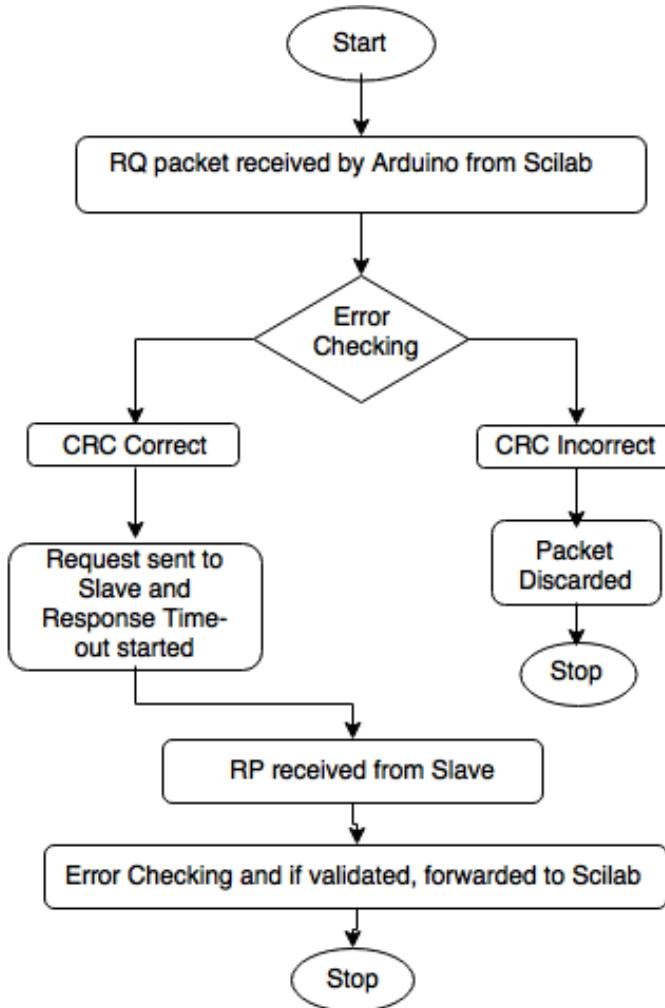

Figure 11.6: Flowchart of Arduino firmware
1. Firmware for Arduino Uno: This firmware is needed to communicate with Python (using serial interface), and with RS485 module (using Software Serial interface). Control logic to enable receive and transmit modes of MAX485 chip is also present in this firmware. Fig. 11.6 demonstrates the overall implementation of this firmware.